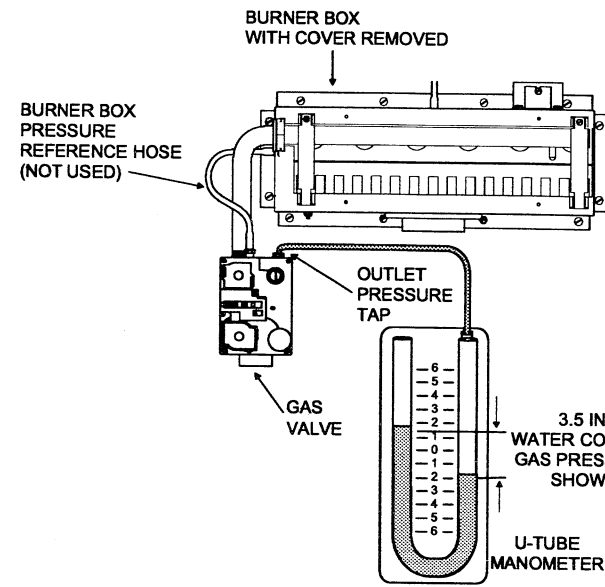

FIGURE 24 - READING GAS PRESSURE WITH BURNER BOX COVER REMOVED
- b. Reading the gas pressure with the burner box cover removed - Remove the screws securing the burner box front cover plate. Remove the cover. It is gasketed and may stick in place. Connect the positive side of the manometer to the adapter previously installed in the gas valve as shown in Figure 24. There will be no second connection to the manometer as it will reference atmospheric pressure.